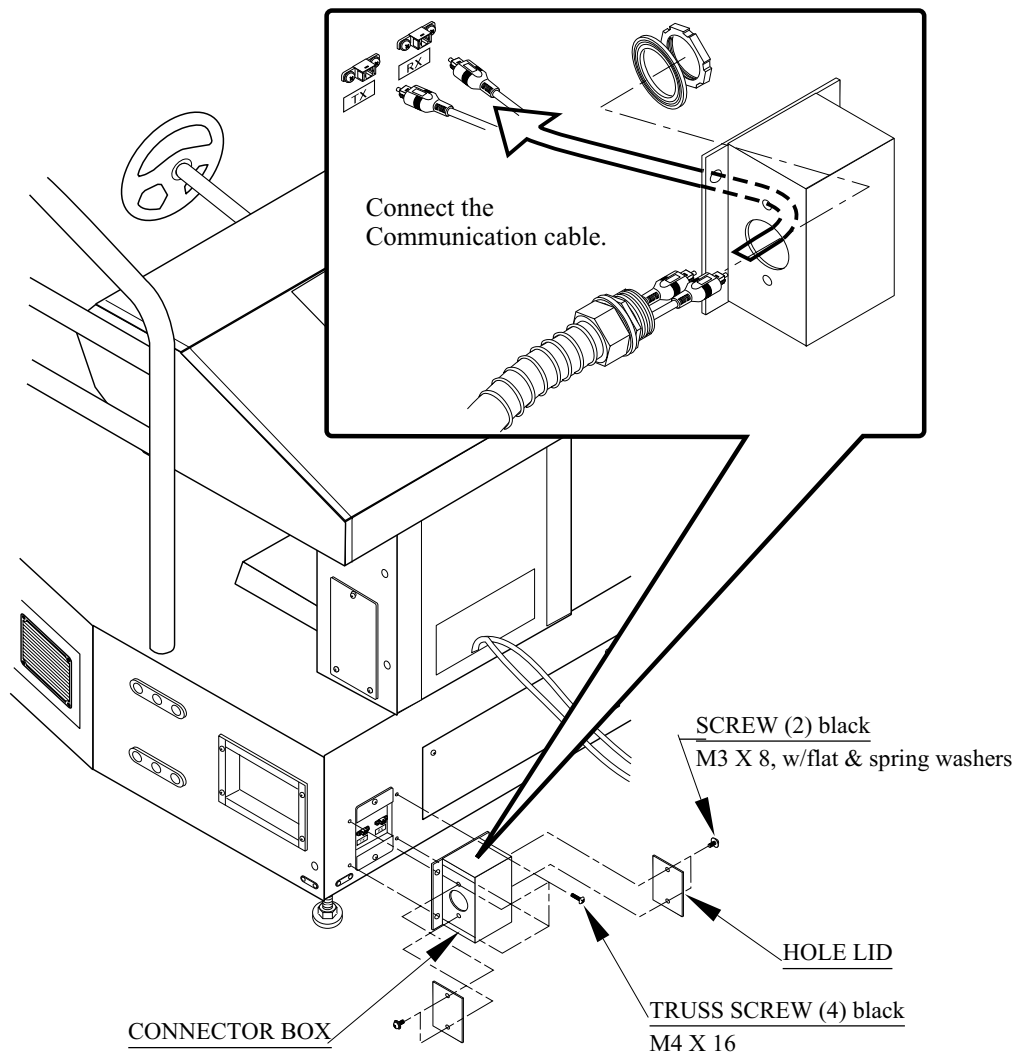

FIG. 17. 2 a
- ④ Remove the 2 screws to detach the hole lid from the connector box. Depending on the number and arrangement of the interconnected game machines, you may remove either or both of the 2 hole lids. (Fig. 17. 2a)
- ⑤ Attach CONNECTOR 22 to the both ends of FLEX TUBE. First, disassemble CONNECTOR 22 (Fig. 17. 2 b).
- ⑥ First pass the plastic nut through the flex tube. Otherwise, the following work can not be performed and therefore, be very careful of this point.